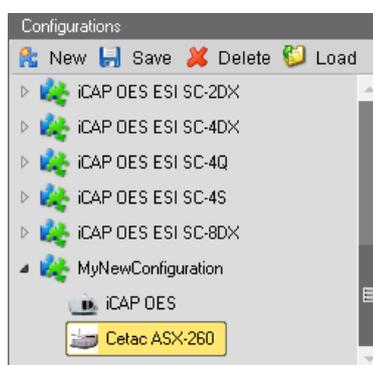

Figure 3-10. Instrument and autosampler added to your Configuration
6. Drag the peripheral you wish to add from the **Instruments** tab to your new Configuration, see Figure 3-10.